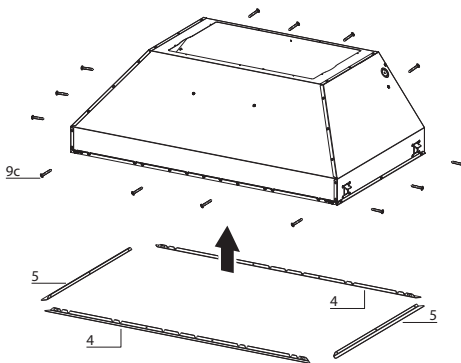

FIGURE 14
2. Remove the white plastic covering and install the 4 side trim pieces (4-5) to the outside of the hood using (14) part 9c screws, see the side rail installation in (Figure 14).